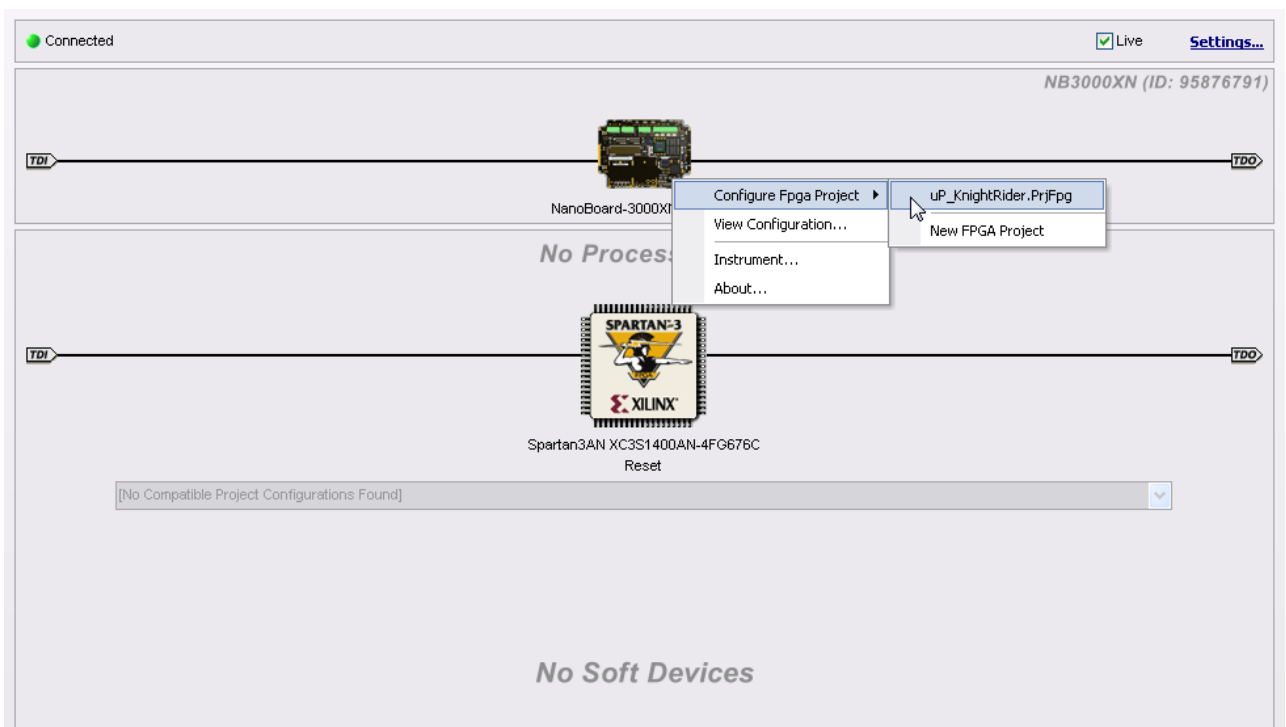

Figure 12. Configure the design to run on the NB3000.
29. An icon of the NB3000 will appear, right-click on it and select **Configure FPGA Project»Snd2Light.PrjFpg** from the menu, as shown in Figure 12.